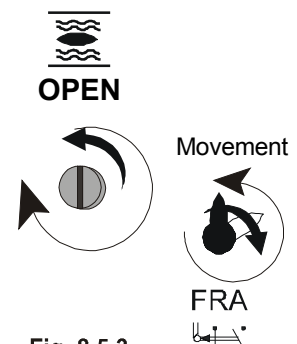

Fig. 8.5.3
- If, by accident, it has been carried on turning past the tripping of the FRA microswitch, turn **A spindle** in the opposite direction (clockwise) until the **B spindle** returns to vertical. Figure 8.5.3)